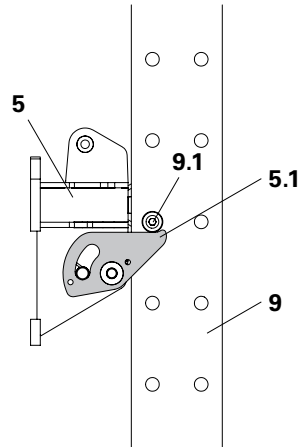

Fig. 46
- Set down the Climbing Unit on the climbing pawls (**5.1**) of the activated shoes. (Fig. 46)